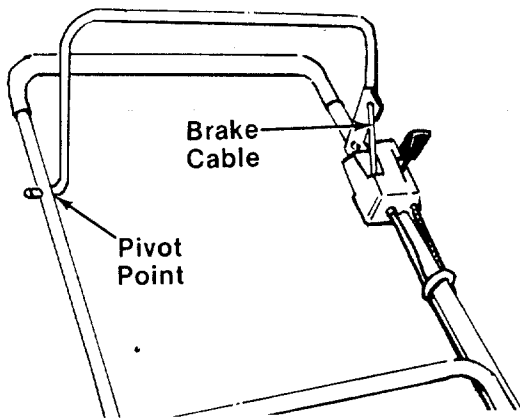

FIGURE 30.
**Blade Control**—Lubricate the pivot points on the blade control handle and the brake cable at least once a season with light oil. See figure 30. The blade control must operate freely in both directions.